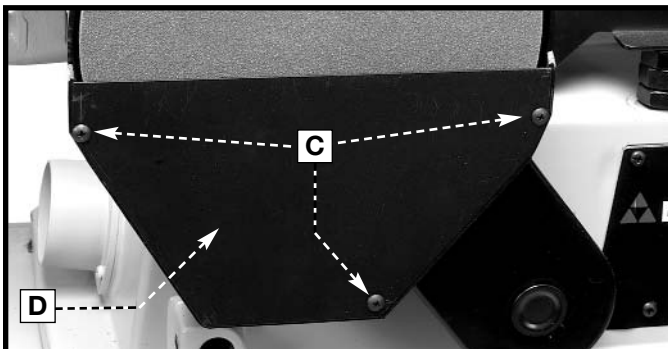

Fig. 42
2. Remove the three screws (C) Fig. 42 and lower the cover (D).